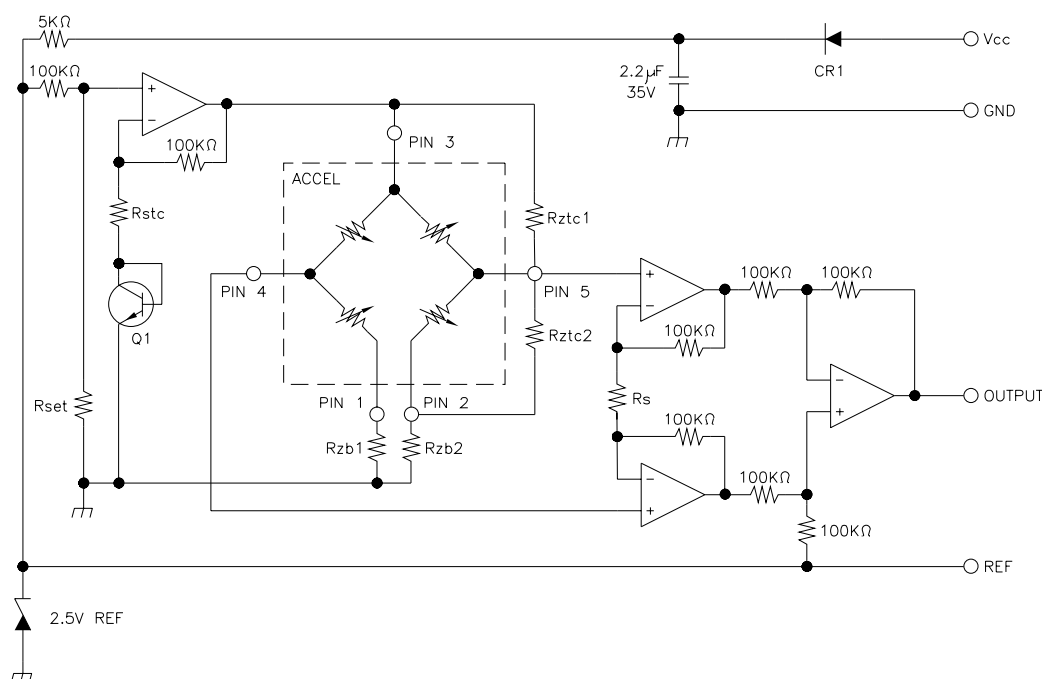

Figure 2. Typical Temperature Compensation and Amplification Circuit (component values specified for each sensor)
3. Percentage values are with external compensation. The uncompensated temperature coefficients are measured and specified with each unit. In addition, the values of the resistors that provide a temperature compensated output are provided with each unit. These resistors are for use in the circuit shown in Figure 2.